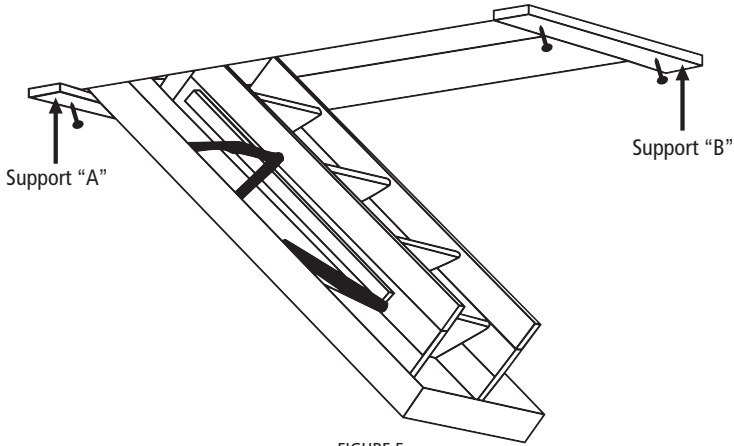

FIGURE 5
E. The person below will need to raise the attic ladder into the rough opening and with assistance from person above position securely on the temporary support boards (Figure 5).